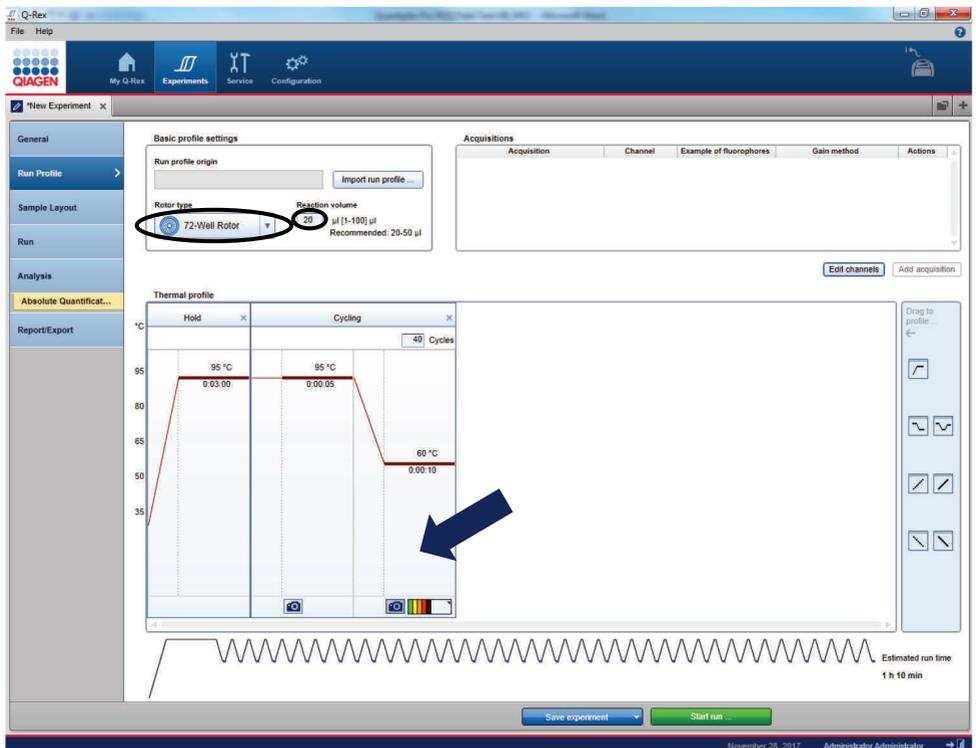
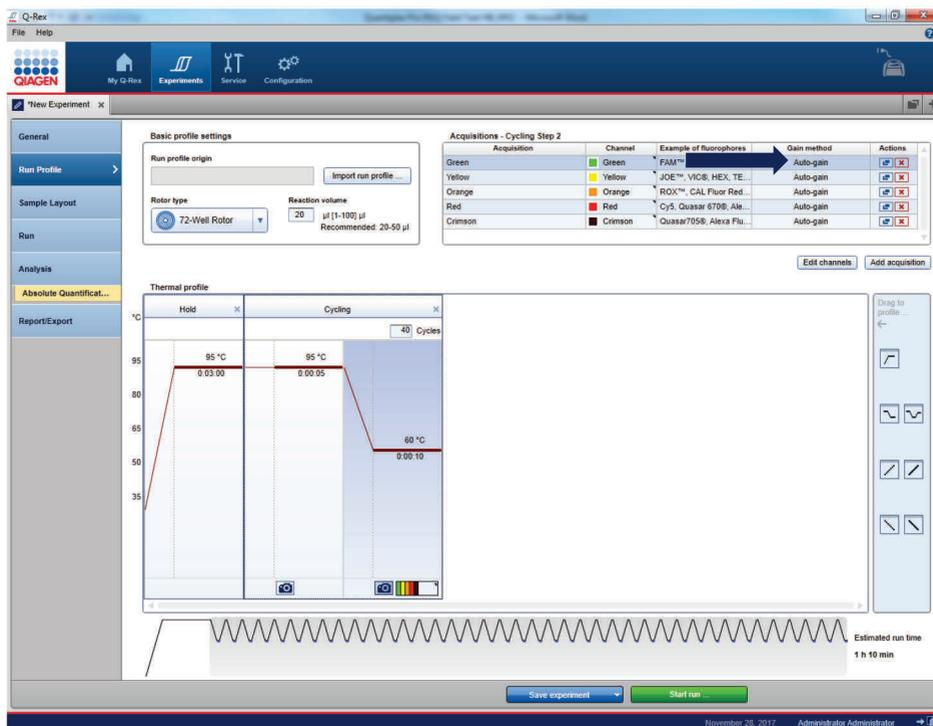

Figure 4. Run profile settings in Q-Rex.
Figure 5. Confirmation of auto-gain settings in Q-Rex.
15. Confirm Rotor type and Reaction volumes” (Figure 4).
17. Click in the thermal profile in the area above the colored camera symbol (indicated by arrow in Figure 4). Acquisition settings will be displayed (Figure 5).
18. Click on the “Auto-gain” field for the green channel (Figure 5).